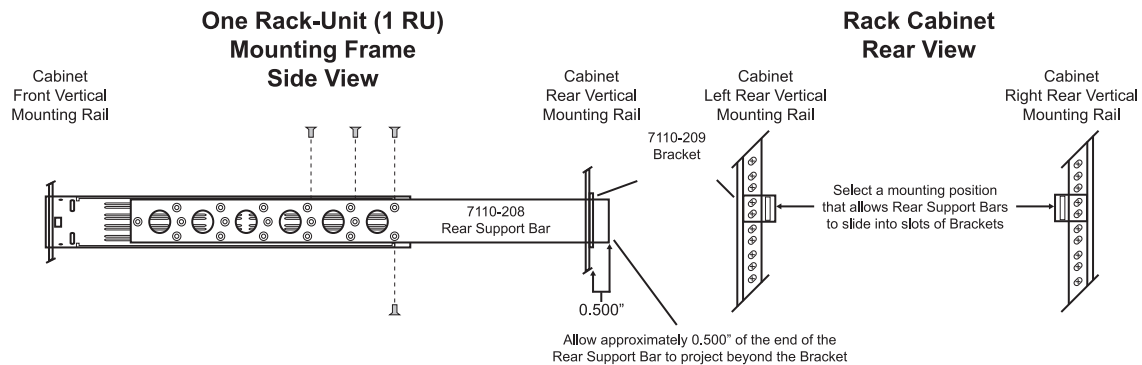

Figure 3.2 FSB-7110 Rear Support Bars and Brackets
The rear support bars can be attached to the DFR-8104A(-C) in six possible positions. (**Figure 3.2**)
2. Using four screws per bar, as shown in **Figure 3.2**, fasten one bar to each side of the DFR-8104A(-C).